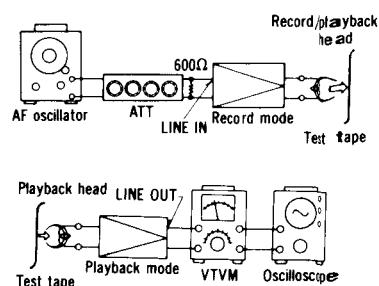
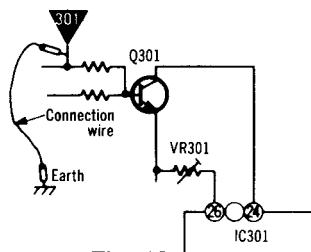
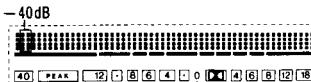
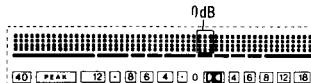

Fig. 15
Fig. 16
Fig. 17
Fig. 18
<p>G Overall gain</p> <p>Condition:</p> <ul style="list-style-type: none"> * Record/playback mode * Normal tape mode * Input level controls ... MAX * Output level control ... MAX * Standard input level; MIC -72±3dB LINE IN -24±3dB <p>Equipment:</p> <ul style="list-style-type: none"> * VTVM * AF oscillator * ATT * Oscilloscope * Resistor (600Ω) * Test tape (reference blank tape) ... QZZCRA for Normal 	<ol style="list-style-type: none"> 1) Test equipment connection is shown in fig. 15. 2) Place UNIT into normal tape mode, and load the test tape (QZZCRA). 3) Place UNIT into record mode. 4) Supply 1kHz signal (-24 dB) from AF oscillator, through ATT to LINE IN. 5) Adjust ATT until monitor level at LINE OUT becomes 0.7V. 6) Playback recorded tape, and make sure the value at LINE OUT on VTVM becomes 0.7V. 7) If measured value is not 0.7V, adjust VR7 (L-CH), VR8 (R-CH). 8) Repeat from step (2).
<p>H Fluorescent meter</p> <p>Condition: * Record mode * Input level controls ... MAX * Output level control ... MAX</p> <p>Equipment: * VTVM * AF oscillator * ATT</p>	<ol style="list-style-type: none"> 1. Make connections as shown (See fig. 15). 2. Connect a wire between TP301 and ground terminal (See fig. 16). 3. In the recording pause mode, apply 1 kHz (-24 dB) to LINE IN. 4. Adjust ATT so that output level at LINE OUT is 0.7 V. <p>-40dB adjustment</p> <ol style="list-style-type: none"> 5. Adjust ATT so that the level adjusted at step 4 is reduced by 40 dB. 6. At this time, check that -40 dB indicator is lighted halfway (intermediate brightness between full brightness and light-out: See fig. 17). 7. If the indicator is not lighted halfway as described in step 6, adjust VR302. <p>0dB adjustment</p> <ol style="list-style-type: none"> 8. Restore the condition of step 4 (set LINE OUT output level to 0.7 V). 9. At this time, check that 0dB indicator is lighted halfway (intermediate brightness between full brightness and light-out: See fig. 18). 10. If improper, adjust VR301. 11. Repeat adjustments and checks at steps 4, 5, 6, 7, 8, 9 and 10 two or three times. 12. Disconnect the wire between TP301 and ground terminal, which had been connected at step 2.